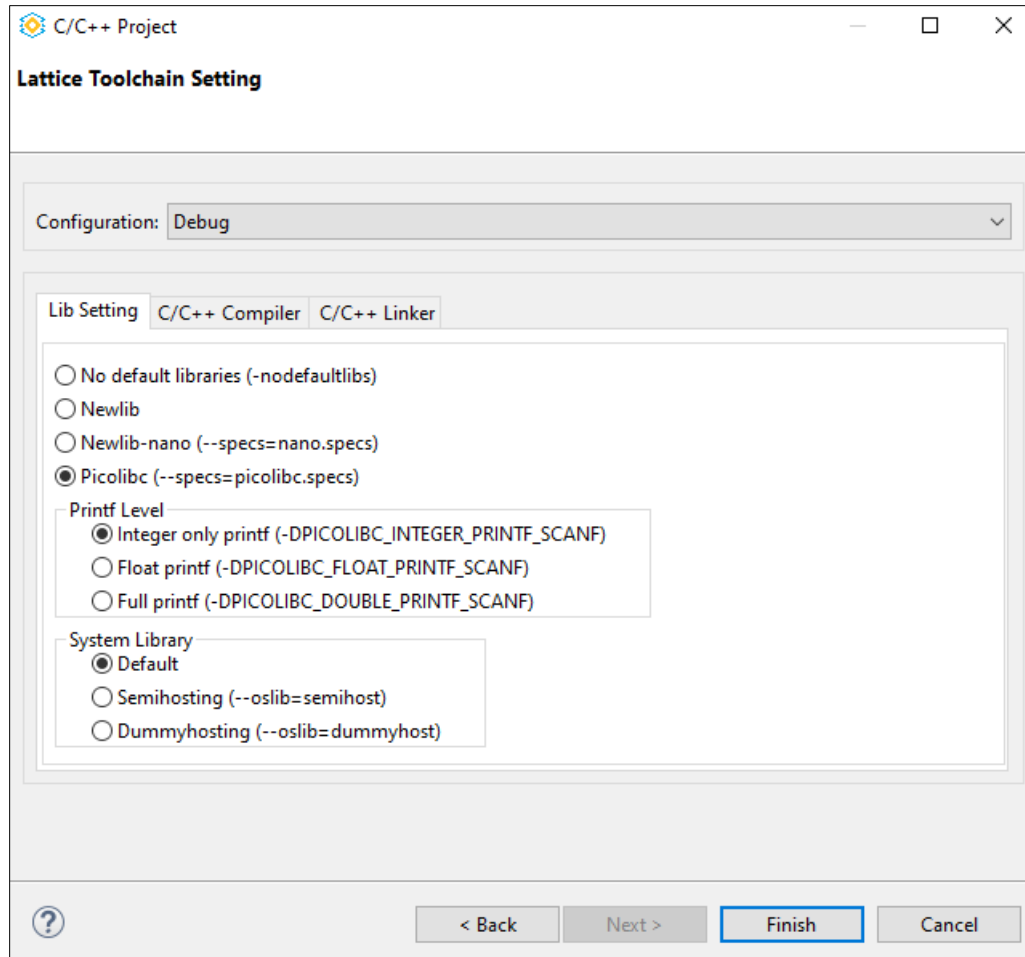

Figure 3.26. Lattice Toolchain Setting Dialog 1
10. Click **Next**. The **Lattice Toolchain Setting** dialog opens (Figure 3.26).